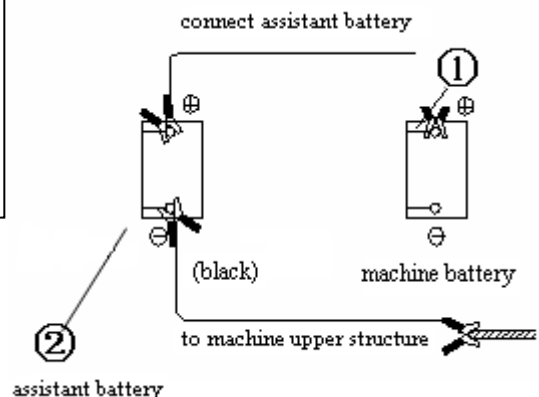

Figure 3.3.13
- Connect assistant battery (As figure 3.3.13)